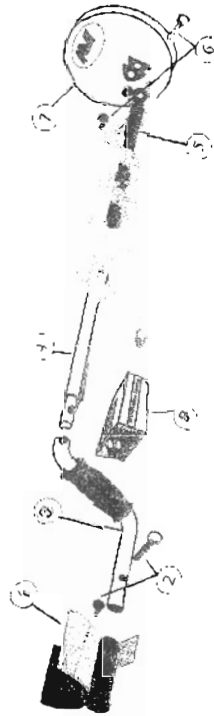

Figure 1 - Assembly of the XT 17000
Figure 1 shows normal searching without AGT. Ground noises reduce the effective searching depth when you move from where you last ground balanced. The shaded area shows ground which is not properly searched.
- Remove the black nylon bolt and nut (2) from the armrest (1).
- Slide the armrest (1) (with the support fins pointing to the ground) onto the end of the grey upper shaft (3) furthest from the foam handgrip (as is shown in figure 1). Line up the holes at a comfortable position for the length of your arm.
- Push the nylon bolt (2) through the holes and tighten the wing nut by hand.
- Slide the intermediate shaft (4) into the upper shaft (3) taking note of the position of the black "Y" clip (as shown in figure 1). Ensure that they click together correctly and will not easily come apart.
- Remove the tape on the lower fibreglass tube (5) which is holding the black teardrop washers in place. Make sure the washers do not fall out after removing the tape.
- Remove the white nylon nut and bolt (6) from the coil (7).
- Push the lower fibreglass tube (5), with the teardrop washers in place, into the bracket on the coil so that the holes line up. Make sure that the black nylon spring clip, near the top of the fibreglass tube, is pointing toward the rear of the coil.
- D. Push the white nylon nut and bolt (6) (as shown in figure 1) through the holes in the bracket on the coil from the cable entry side, then place the spacer and wing nut on the other end of the bolt and tighten by hand.